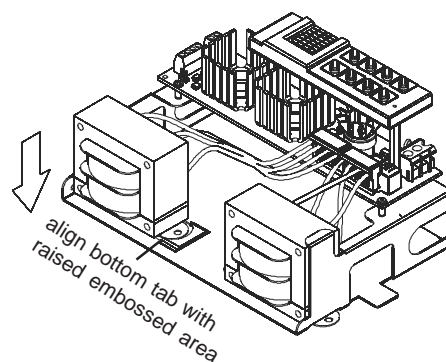

Figure 2
- 4) Align the bottom tab on the XRM-24B/E transformer with the raised embossed area on the chassis as illustrated in Figure 2.